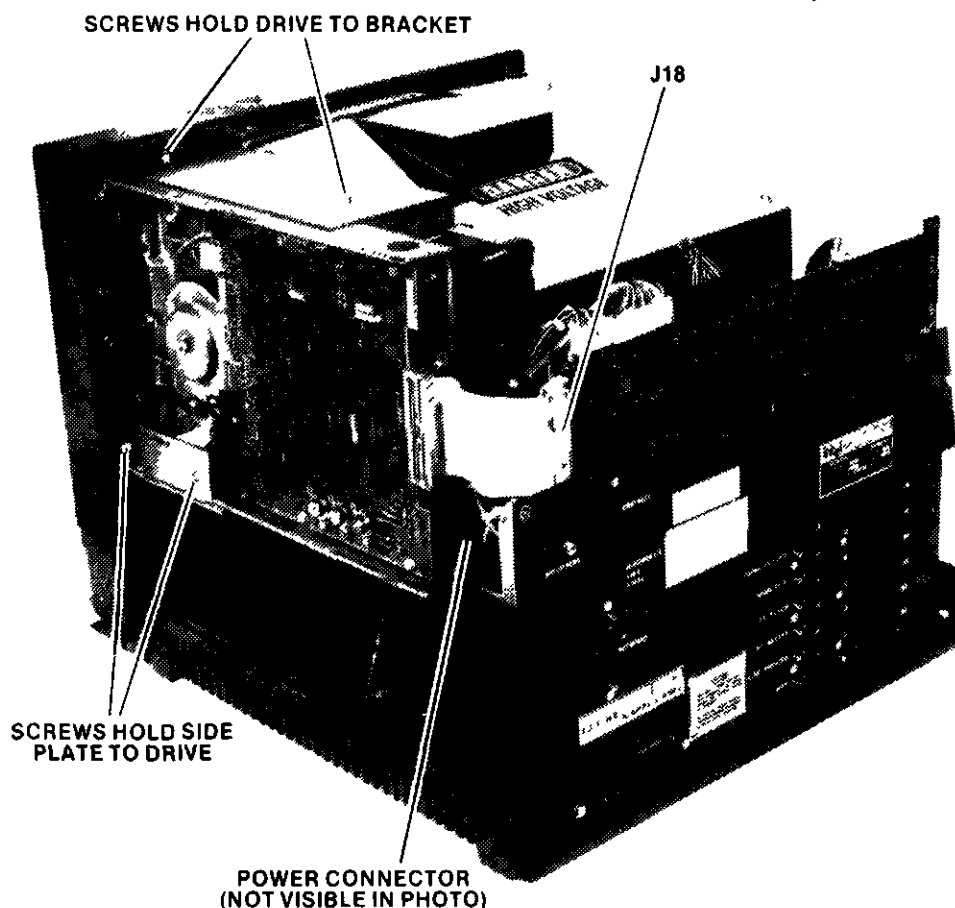

Figure F-1. Integral Drive Removal
- (1) P25—controller interface connector
- (2) P24—ac power connector
- (3) P23—dc power connector
- Referring to figure F-1, remove the two screws securing drive to top mounting bracket, and remove the two screws securing side retainer plate to drive.